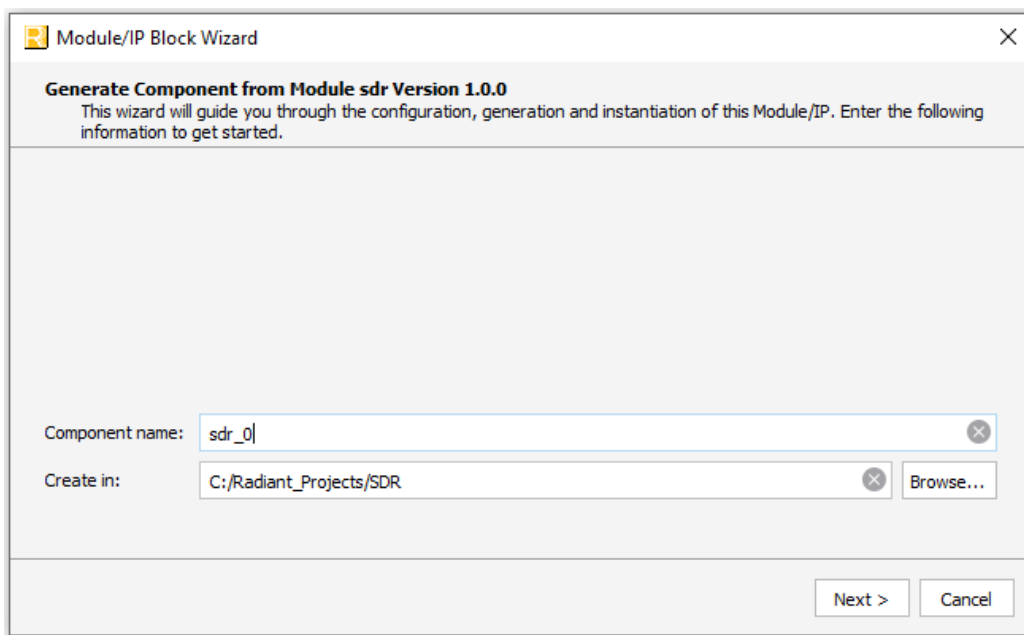

Figure 3.1. Module/IP Block Wizard
2. In the **IP Catalog** tab, double-click on **SDR** under **Module, Architecture_Modules, IO** category. The **Module/IP Block Wizard** opens as shown in Figure 3.1. Enter values in the **Component name** and the **Create in** fields and click **Next**.
- Click the **Finish** button. All the generated files are placed under the directory paths in the **Create in** and the **Component name** fields shown in Figure 3.1.